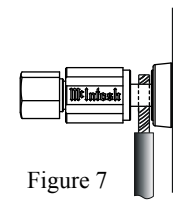

Figure 7
14. Connect the Loudspeaker hookup cables to the MC611 Negative Output Terminal and Positive Output Terminal identified as 2Ω (ohms), 4Ω (ohms) or 8Ω (ohms) connection to match the impedance of the Loudspeaker, being careful to observe the correct polarities. Insert the spade lug connector or prepared section of the cable end into the terminal side access hole, and tighten the terminal cap until the cable is firmly clamped into the terminals so the lugs or wire cannot slip out. Refer to figures 7 and 8.